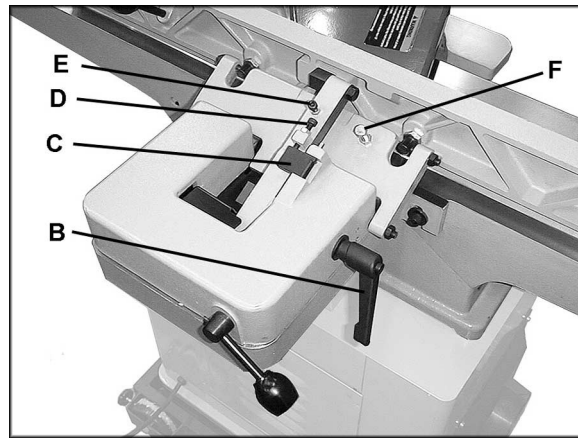

Figure 25 (repeated)
5. Tighten hex nut (E, Figure 25) and locking handle (B, Figure 25).
1. Flip the stop block (C, Figure 25) out of the way.
2. The 45 degree back stop is controlled by the screw (F, Figure 25).
3. Loosen the locking handle (B, Figure 25) and the hex nut on the screw (F, Figure 25).